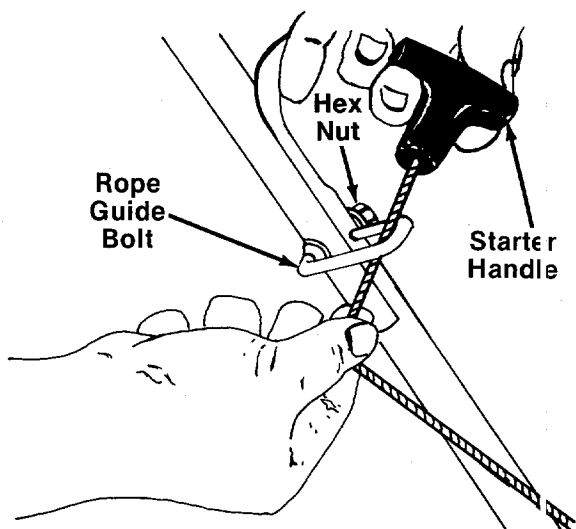

FIGURE 7.
9. Slip the starter rope into the rope guide bolt as shown in figure 7. If more slack is needed in the starter rope, disconnect and ground the spark plug wire. Depress the blade control handle and pull additional rope out from the engine.